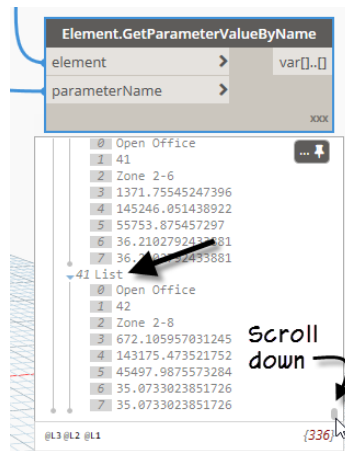

FIGURE 65
20. Run the graph and study the list that results in the Preview Bubble (see Figure 65).